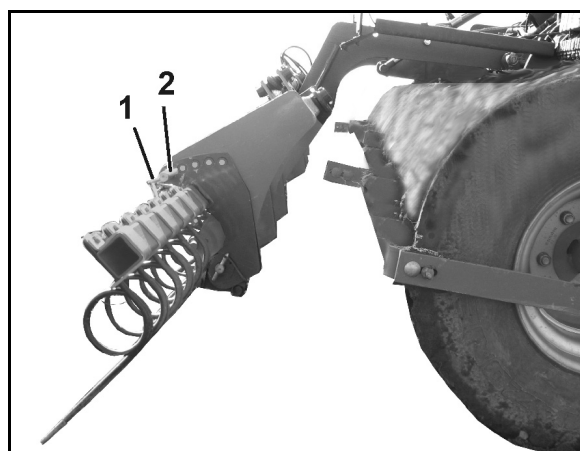

Fig. 42
- Harrows (Fig. 42)
2. Release the clip pin (Fig. 42/1).
3. Secure the adjusting pins (Fig. 42/2) in the desired position.